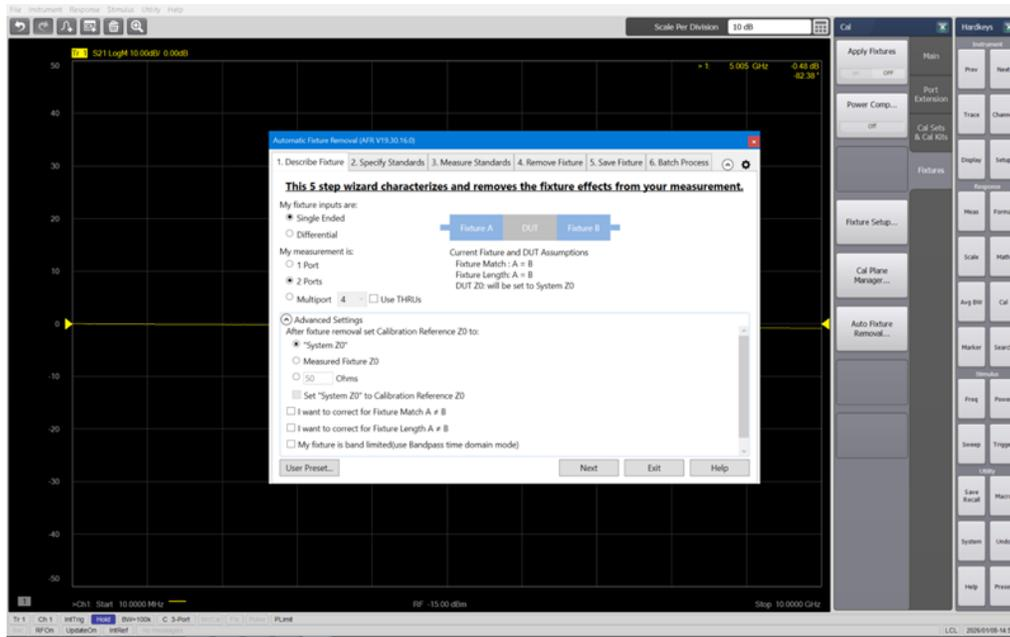
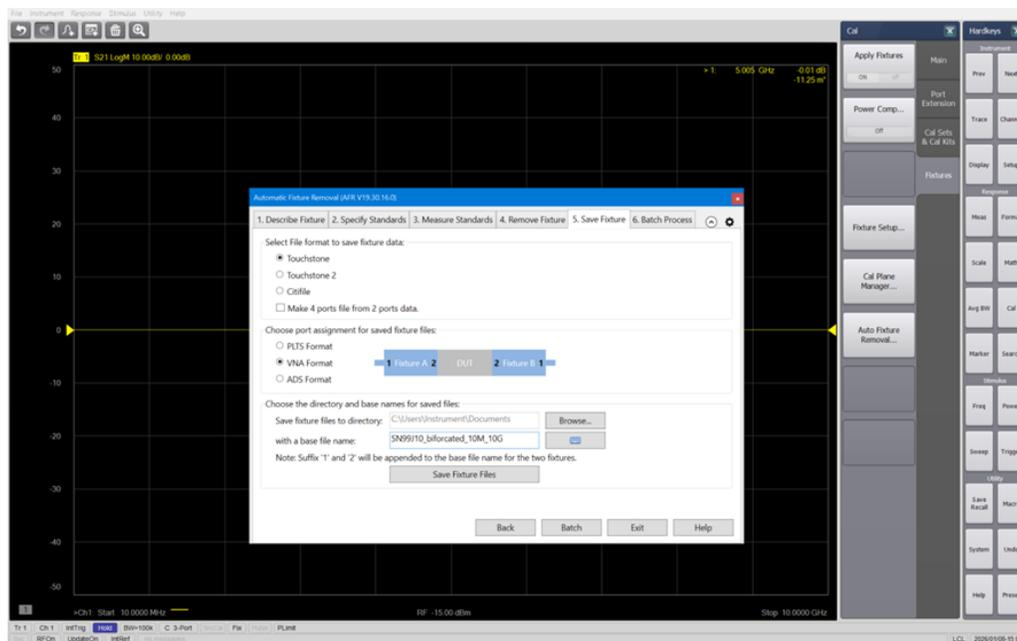

Figure 5: AFR tool tab 1
Figure 9: AFR tool tab 5
In the Auto Fixture Removal application, configure tabs 1–5 as shown in Figure 5–Figure 9.
2. In the *with a base file name* field, enter the file name. In the Figure 9 example, the specified file name is SN99J10_biforcated_10M_10G.